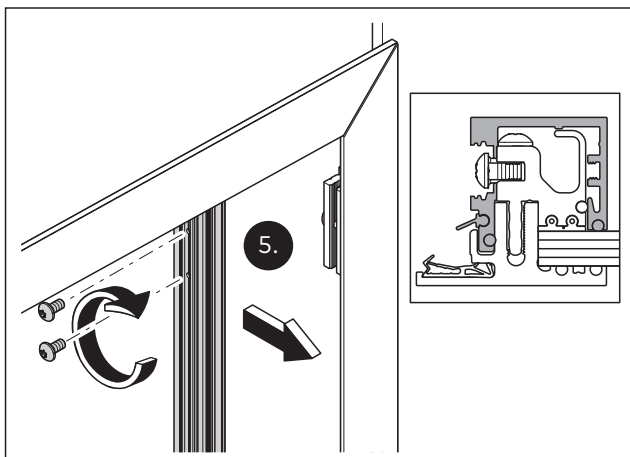

Fig. 43 Attach and fix the cover profiles for the door frame from the viewpoint of the opposite side to the hinge.
- Push on and fix the vertical cover profile for the door frame with the strike plate on the lock side (Fig. 43).